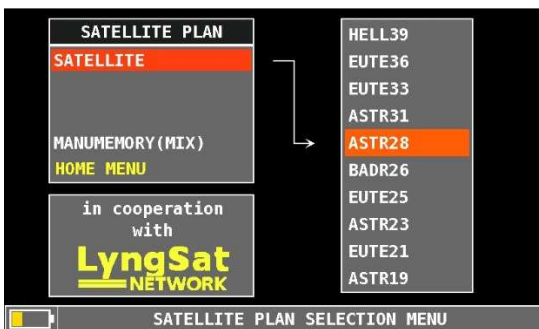
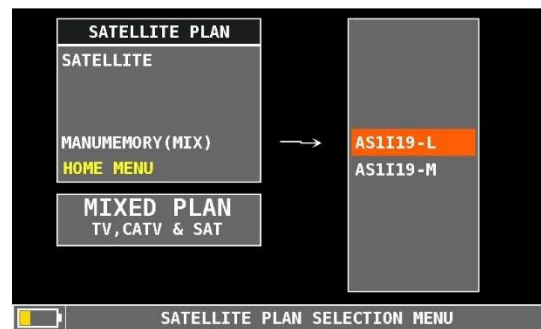

Fig.1 List of pre-memorized programme files. These cannot be edited on the meter but only on a PC with the SMART programme.
Fig. 2 List of user generated programme files. These can be created on the meter or on a PC with the SMART programme.
A logger is run against a MEMORY plan. A Memory plan is a file which contains a given number of programmes. These programmes may be transponders, TV MUXes or a combination of both. There are memory plans which are pre-memorized in your meter (ref. fig.1), these are the Satellite transponders, one file for every orbital position. There can be also MANUAL memory plans (ref. fig.2), which are defined by the user with any type of signal. A MANUAL memory plan can have SAT and TV programmes in the same file. The manual programme files may be generated on the meter itself or uploaded to the meter using the Rover SMART programme (ref. www.roverinstruments.com, SW update area).
Update your meter with the latest available Firmware: greater than version 2.33 and upload to your meter the “chn” memory plan available for the HD TAB 4 TOUCH in the Rover web site section SW Update. There are two Memory plan files (CHN). The first one contains all transponders sorted by Polarization (H and V), this ease measurements when aligning a dish with a Wide Band LNB, there are two cables coming from an LNB, with one polarization each (Horizontal and Vertical). After uploading this file to your meter, it will show, in its name, an “L” as a suffix, that stands for LNB (Ref. fig.2).
The second chn file has all transponders sorted by frequency, this ease measurements when using a dCSS or dSCR Multiswitch output. After uploading to your meter, this Manual channel plan will show, in its name, an “M” as a suffix, that stands for Multiswitch (Ref. Fig. 2).
- Press the **PLAN** key and select one of the “chn” PLANs mentioned above, ref. fig. 2.
- b) The MANUAL “chn” files with the “L” suffix, contains only transponders which are inside the converted L band of the meter. If you select any other satellite in the pre-memorized “SATELLITE PLAN” list (ref. fig.1), you may work with a Wide Band LNB but transponders will not be grouped as Vertical and Horizontal. You may do this grouping utilizing the SMART programme.